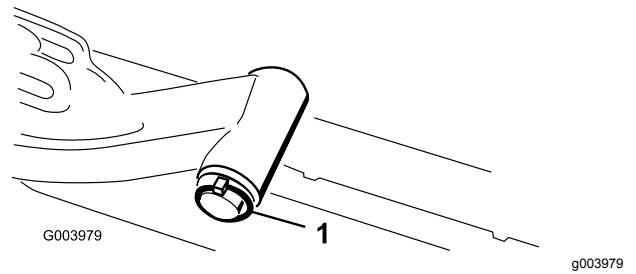

Figure 12
slide the lift-arm-pivot shaft out of the lift arm (Figure 12).
C. Insert the lift-arm shaft into the lift arm and secure it with the washer and lynch pin (Figure 12).